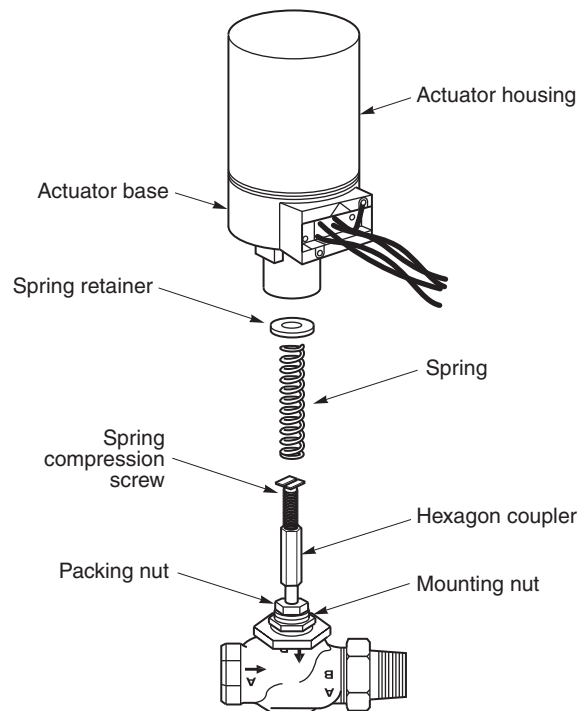

Figure-3 Assembly of AV-600 Linkage Kit onto VB-7xxx Series Valve.
8. Center the spring on top and bottom to assure smooth actuator operation. See Figure-3 for total assembly components required.